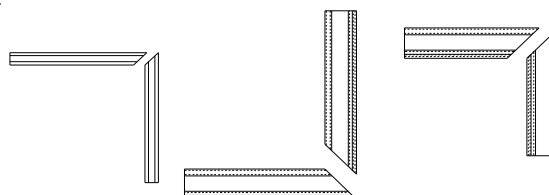

Figure 13
**STEP 22.** If necessary for a transition, miter the subchannel to match the mating, installed subchannel (see Figure 13)
**STEP 23.** Select the splice bar, the splice bar bolts and the lock nuts. Slide two (2) splice bolts into the splice end of the receiver of each section of mating subchannel. Ensure that the splice bar conforms to the splice or transition.